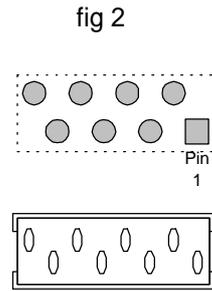

fig 3
8. Look at the component side of the card immediately to the left of the tape card. Identify the red connector located, towards the top of this card and approximately halfway down its length. It is similar in appearance to fig 3 below.